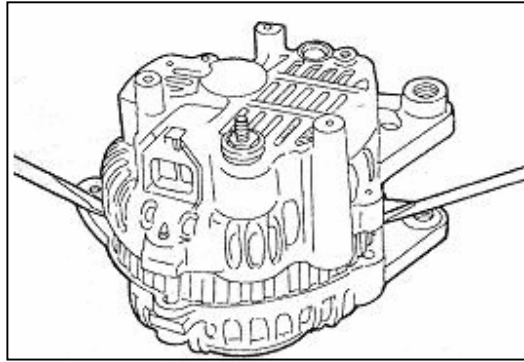

Fig. 9-34
(1) Front bracket assembly Removal (see Fig.9-34)